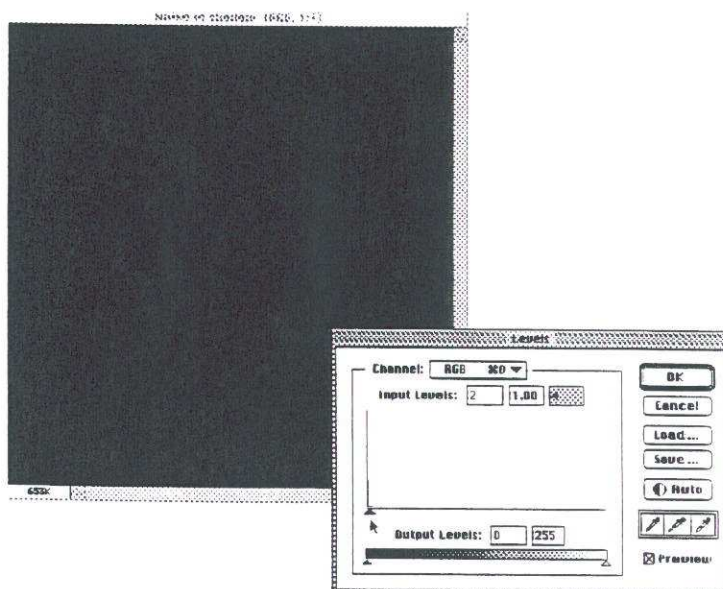

Fig. 1
- 7 • Select **adjust level** and move the left hand (black) marker to the right until level 2 is obtained (fig. 1).
- 9 • Check the image and ensure that there are no stripes on the screen, (fig. 1).